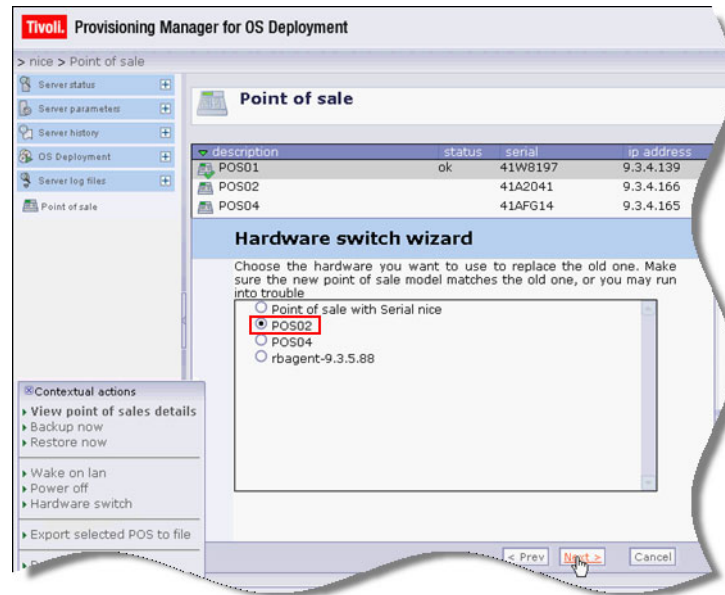

Figure 5-32 Select the new system to replace the old one
- From the list of other POS terminals known to Tivoli Provisioning Manager for OS Deployment, select "POS02" (Figure 5-32) and click **Next**.